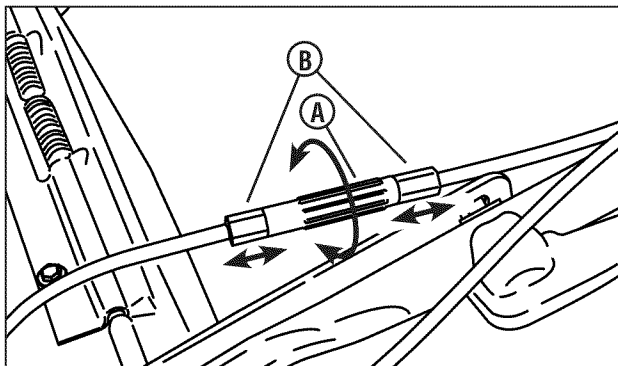

Figure 18: Adjusting the drive cable
- If the transmission does not engage, rotate the turnbuckle (**A, Figure 18**) one-half turn to move the ferrules (**B**) out from the turnbuckle. Check and repeat as needed.